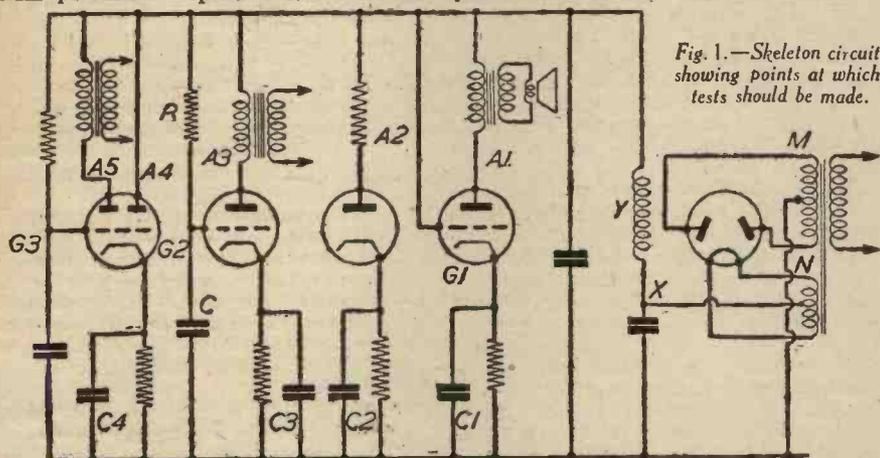

Fig. 1.—Skeleton circuit showing points at which tests should be made.
Broadly considered, the networks of Figs. 1 and 3 include two acceptor circuits,  $C_1L_1$  and  $C_4L_4$ , tuned to the centre of the desired frequency band, and two rejector circuits,  $C_2L_2$  and  $C_3L_3$  (Fig. 1), tuned respectively on the opposite sides of the pass band. As indicated by the curve of Fig. 2, this well-known circuit gives a flat top or three slight peaks with steep sides in the pass band part of the frequency-amplitude characteristic. With high-loss reactors or with a narrow pass band, the shoulders of this characteristic tend to droop. Regeneration of the rejector circuits  $C_2L_2$  and  $C_3L_3$  functions to maintain the desired flat pass band characteristic irrespective of the reactor losses and the pass band width.
The network of Fig. 1 includes an electron discharge amplifier 10 which is provided with input terminals 11-12 and with output terminals 13-14 coupled through reactor-capacitor units  $C_1L_1$  and  $C_4L_4$  to the input terminals 15-16 of an amplifier 17. A resistor  $R_1$  of the order of 100,000 ohms may be connected in shunt to the reactor  $L_1$  for reducing the centre peak of the curve of Fig. 2 to about the same height as the other two peaks, and a resistor  $R_2$ , which may be smaller than the resistor  $R_1$ , may be connected in shunt to the reactor  $L_4$ .
The modified network of Fig. 3 differs from that of Fig. 1 in that the two shunt rejector circuits  $C_2L_2$  and  $C_3L_3$  are replaced by a shunt circuit which includes a capacitor  $C_5$  and a reactor  $L_3$  connected in series with the parallel connected capacitor  $C_6$  and reactor  $L_8$ . In this modification, the parallel resonant circuit is regenerated through means including a single amplifier 27, a cathode lead resistor 28, and the tickler coil  $L_5$  which is inductively coupled to the reactor  $L_8$ .
In lining up a single stage filter such as that of Fig. 1, a signal generator is connected to the grid of the amplifier valve and a valve voltmeter is connected to the output of the filter. The first operation is to line up the rejectors for maximum attenuation at the rejection frequencies. This involves adjusting both tuning and regeneration for maximum attenuation. The two acceptor circuits  $L_1C_1$  and  $L_2C_2$  are then tuned for maximum response in the centre of the pass band. Alignment may be found easier if less than optimum damping is used for this preliminary tuning adjustment. A head and shoulders curve will then be obtained in the pass band. The steps involved in correcting this to the desired shape are indicated in Fig. 5.
Measure the H.T. voltage at the point X (Fig. 1). Low volts will indicate: (1) a faulty rectifier; (2) a faulty mains transformer; or (3) a heavy current drain on the rectifier due to excessive leakage or breakdown of a condenser.